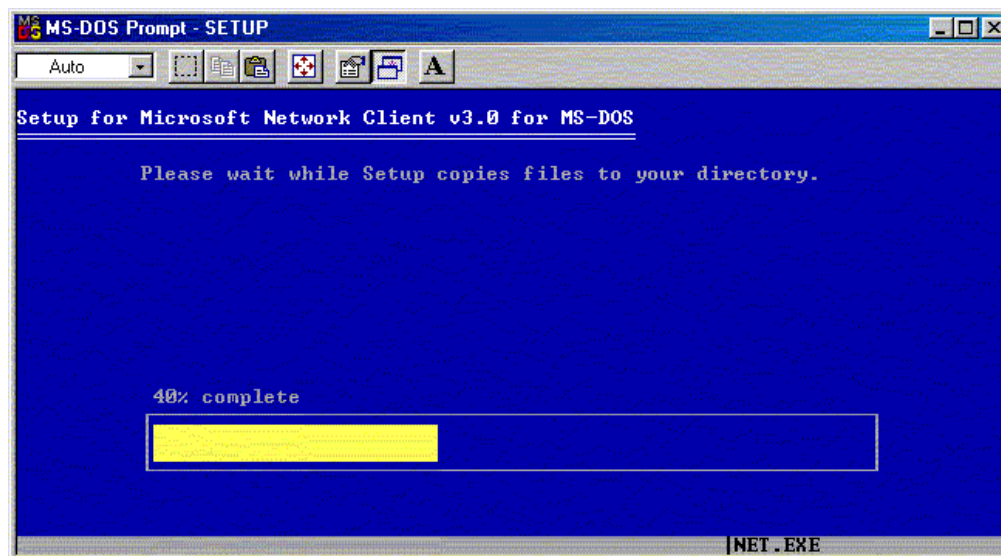

Figure A-15: File copy progress bar
16. Reinsert the first diskette and press the **Enter** key. A progress bar similar to Figure A-15 is displayed.